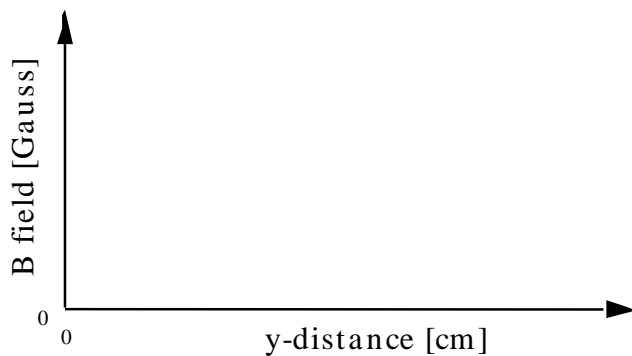

Figure 2. Our results
- Carry out the method preferred by your group and make a graphical representation of your investigation. Plot your data points on Figure 2 and connect them with a smooth line. Make sure you put the appropriate scales on the axes in addition to any other notation.